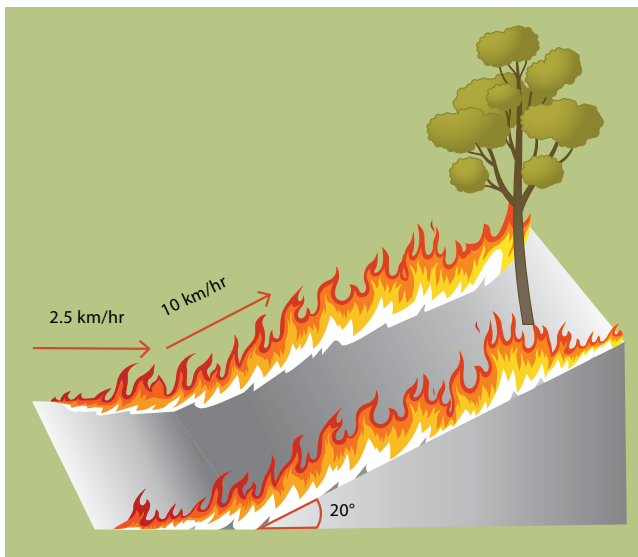

Figure 4 The effect of upslope
- For every 10 degrees of upslope, double the rate of spread (see the example in Figure 4).